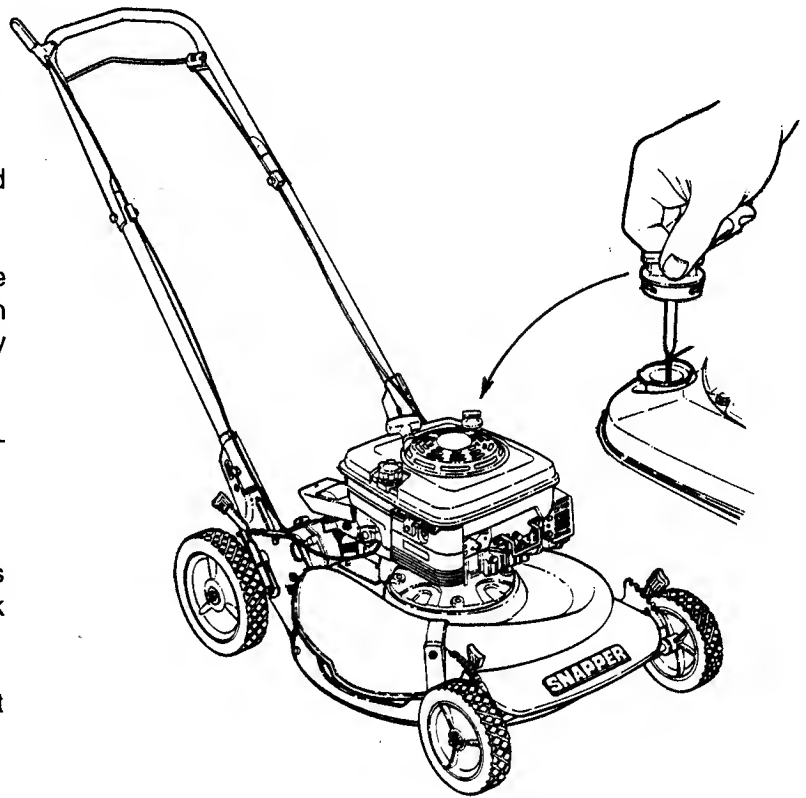

FIG. 2 - DIPSTICK LOCATION
- **CHECK** oil level in 4-cycle engines and add oil as needed to bring the level up to but not over the dipstick (9) "FULL" mark. Refer to FIG. 2